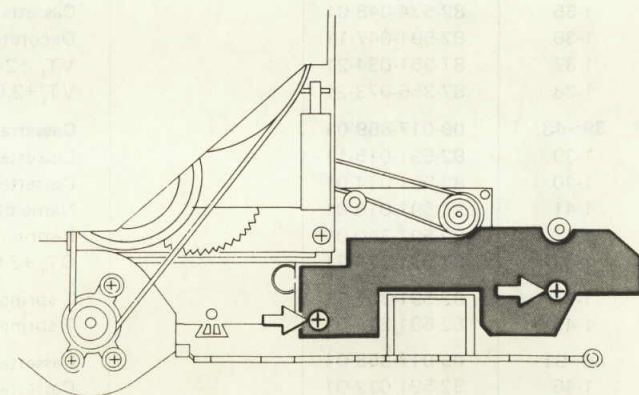

Fig. 16
- Remove the 2 screws. (See figure 16)